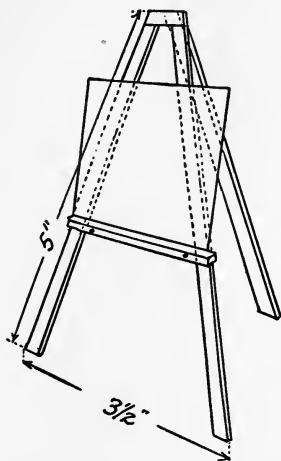

FIG. 116. HOW AN EASEL IS MADE
**Cartoons While You Wait.**— This is a good feature to start off your season's divertisements with. Make a substantial *easel* on which to set a large drawing board as shown in Fig. 116, or you can fasten the paper to a wall with thumb tacks if you live in a home and not in a residence.